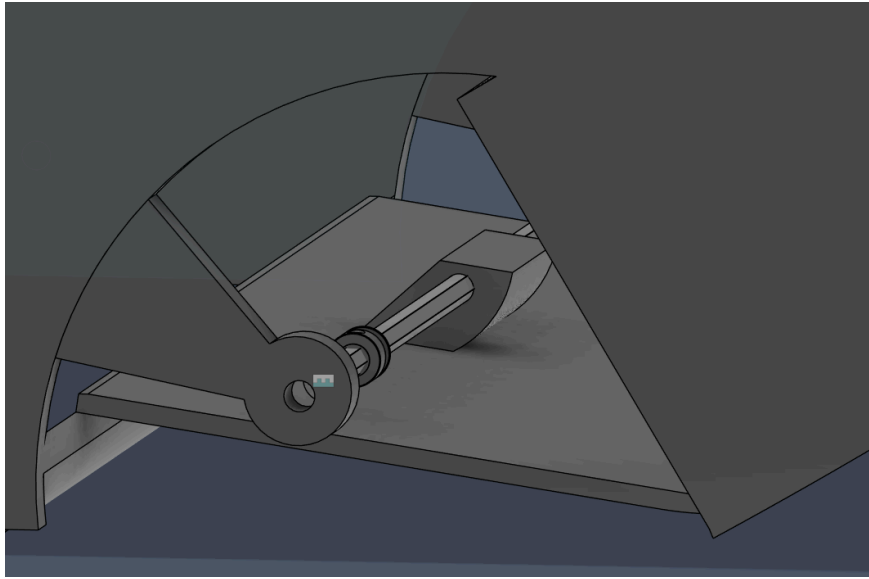

Figure G.9: Axle through the center holder
10. Slide the axle through the center holder of the 3D printed body as shown in Figure G.9.